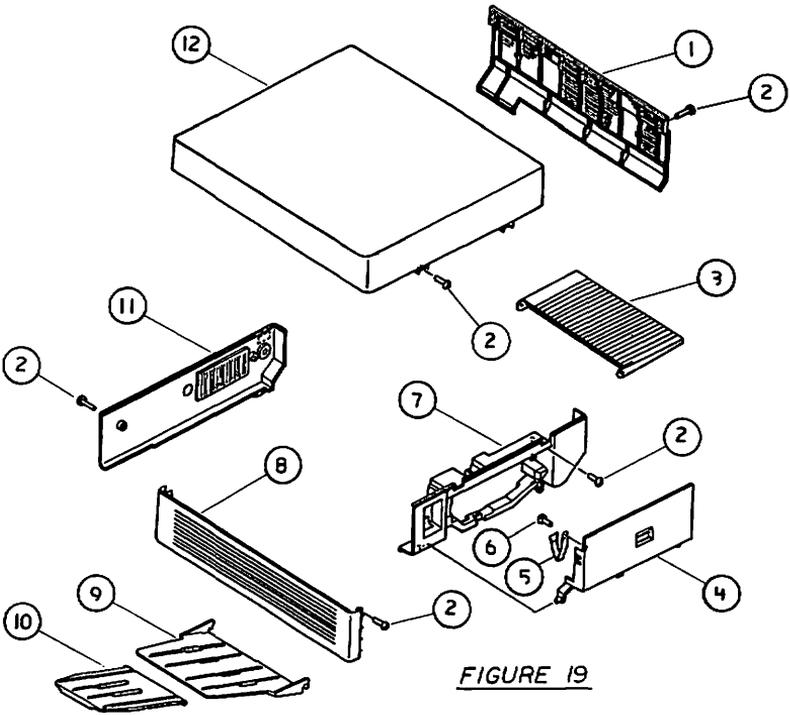

FIGURE 19
**LASERWRITER - EXTERNAL COVERS, PANELS, ETC. (Figure 19)**